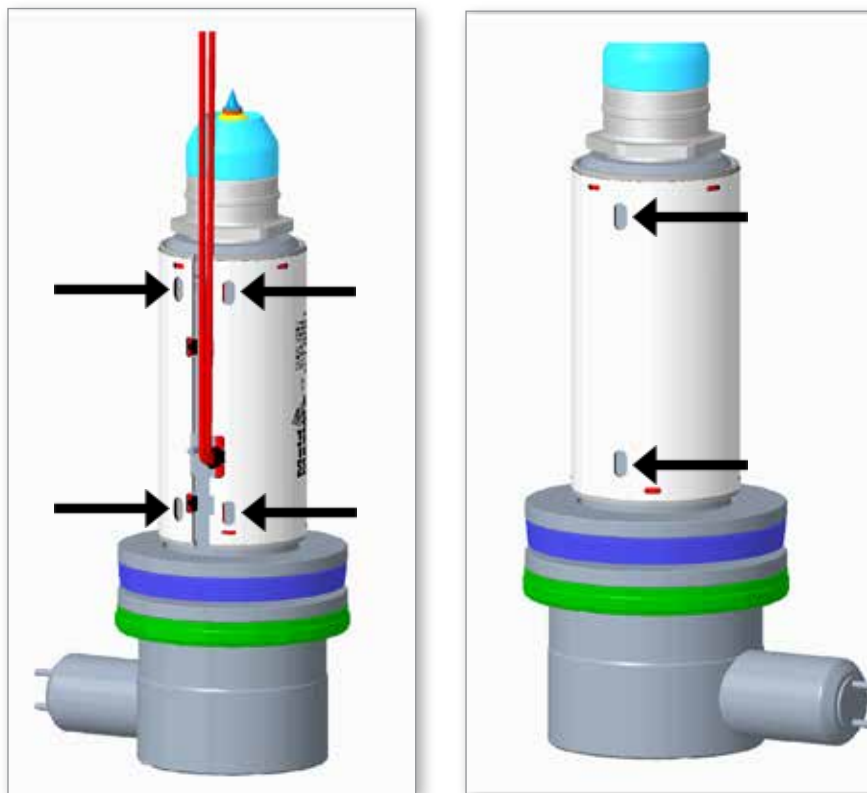

Figure 5-14 Slots on the emergency heater sleeve
2. Use the slots on the emergency heater sleeve to pull the emergency heater sleeve off the nozzle. See Figure 5-14.